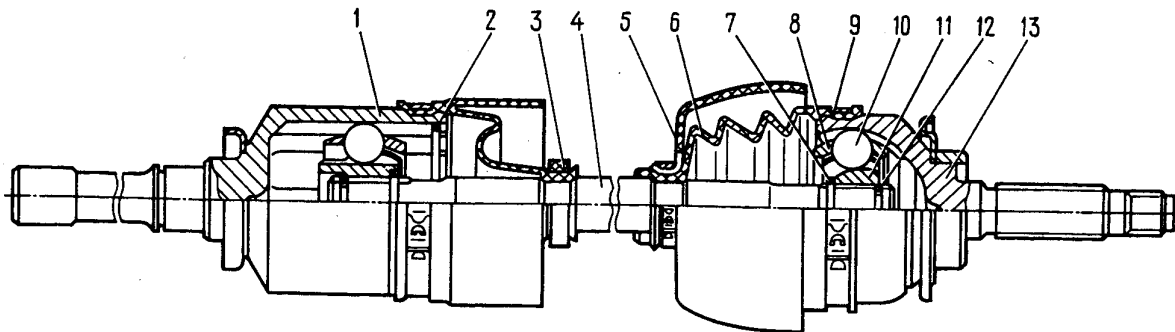

Fig. 3-85. Front Wheel Drive:
The front wheels receive the torque from the front driving axle via two joints interconnected by shaft 4 (Fig. 3-85). The outer joint (constant velocity joint) consists of housing 13, holder 11, cage 8 with balls 10, lockring 12 and thrust ring 7. Holder 11 is connected with housing 13 by the balls which enter the slots of holder 11 arranged radially, and into the housing slots. The holder is slipped on the splines of shaft 4 all the way to bear against thrust ring 7 and is secured by lockring 12. When compressed, this ring passes freely through the splined hole of holder 11 which contributes to easy connection and disconnection of the joint and shaft 4.
- unclamp and remove clamp 9 (Fig. 3-85) from rubber boot 6;
- before striking shaft 4 (Fig. 3-85) for connecting it with inner holder 11, install lockring 12 strictly on the centre and then strike smartly the end of the shaft down; the compressed lockring will slide through the splined hole of the holder;